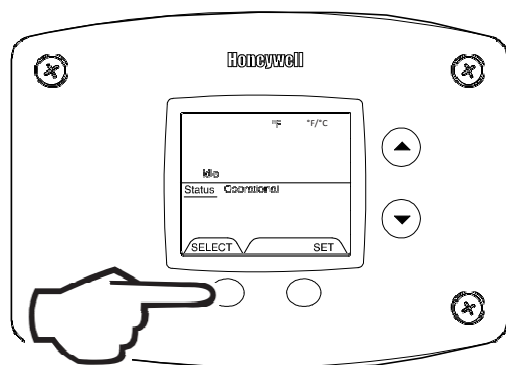

Fig. 53
- While in 'Service Mode', press 'Select' button until '°F/°C' is shown in the upper right portion of the water heater display (Fig. 53).